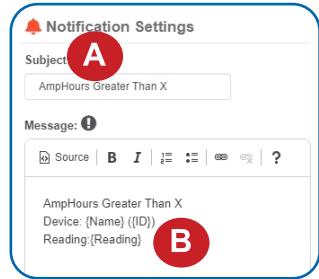

Figure 15
- A.** Input the subject for the notification. See Figure 15.
- B.** Customize the message body for the notification. See Figure 15.